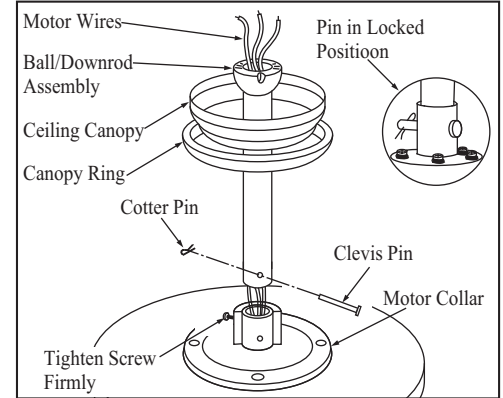

Figure 7
3. Route wires exiting from the top of the fan motor through the canopy ring. Make sure the slot openings are on top. Route the wires through the canopy and then through the ball/downrod assembly. (Figure. 7)
5. Align the holes at the bottom of the downrod with the holes in the coupling on top of the motor housing. (Figure 7) Carefully insert the clevis pin through the holes in the collar and downrod. Be careful not to jam the clevis pin against the wiring inside the downrod. Insert the cotter pin through the hole near the end of the clevis pin until it snaps into its locked position, as noted in the circle inset of Fig. 7.
6. Tighten two set screws on top of the fan motor firmly. (Figure 7)